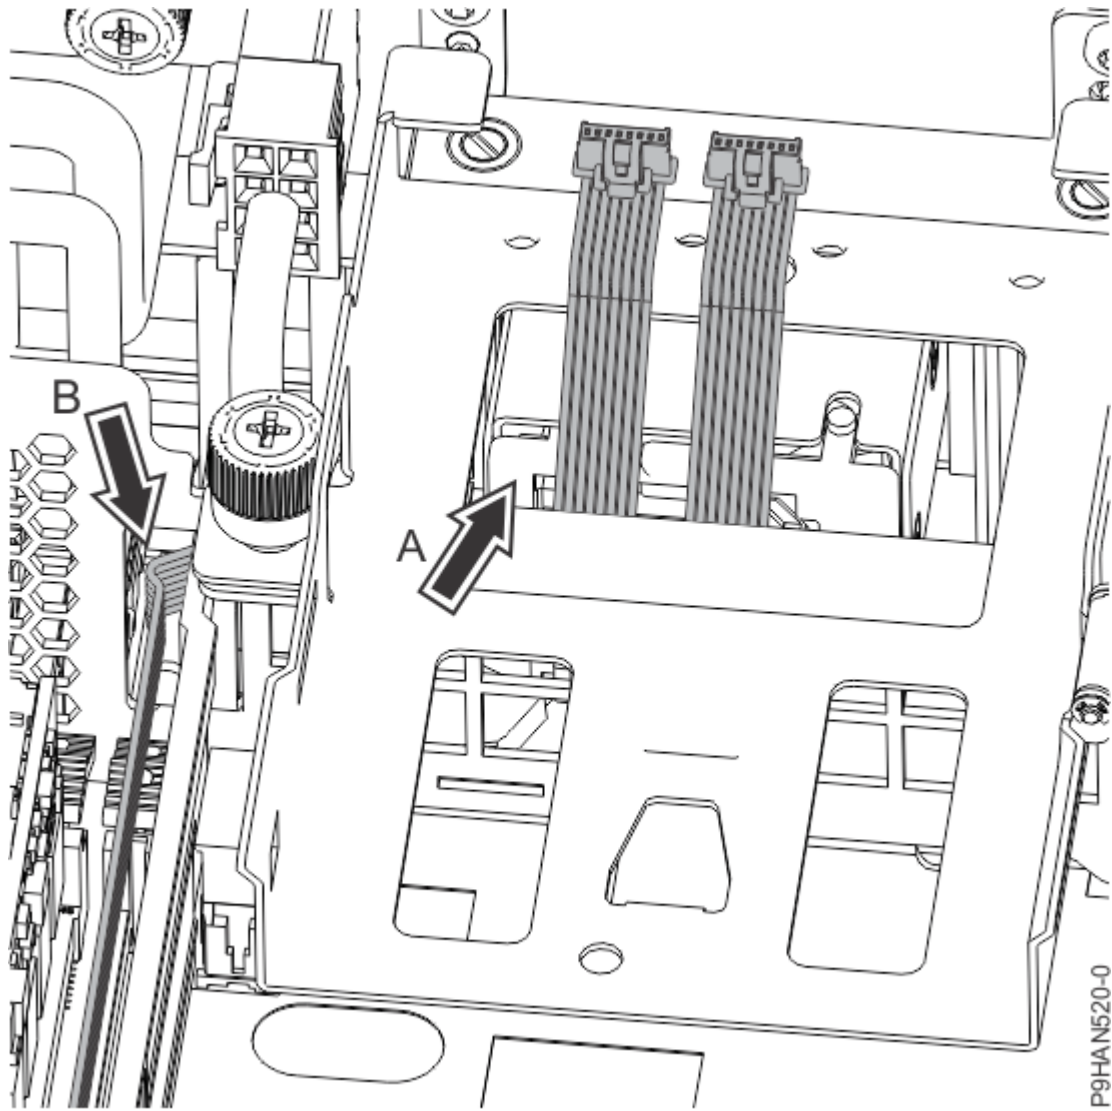

Figure 17. Routing the BPM cable through the sheetmetal cutouts
- a) Refer to Figure 17 on page 19. Carefully route the BPM cable through the sheetmetal cutout **(B)** in the bulkhead and up through the sheetmetal cutout **(A)** that is below the BPM tray.